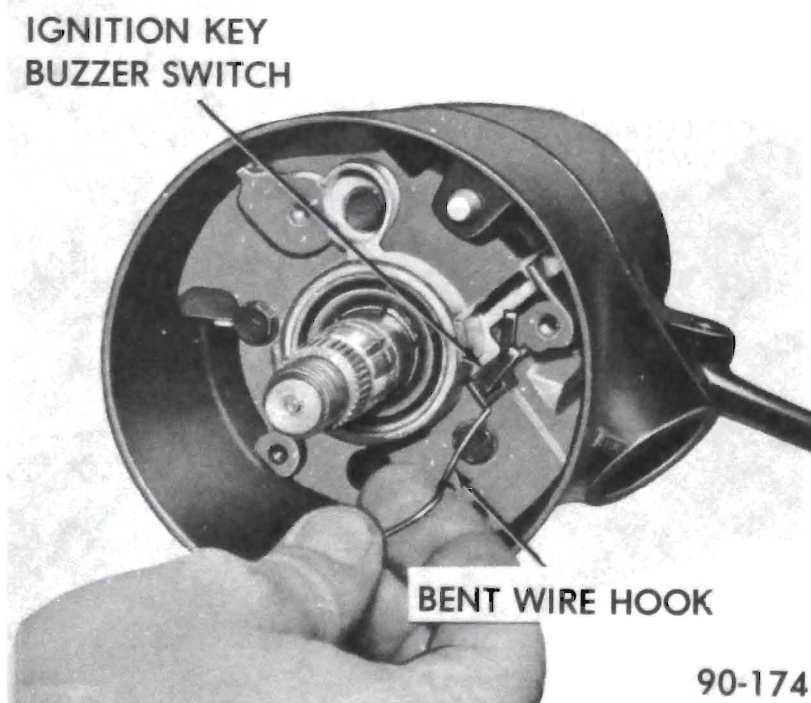

Figure 90-88 Removing Buzzer Switch
12. The buzzer switch can be pulled straight out of the housing. (This may be done without removing the lock cylinder. However, the lock cylinder must be in the "run" position.) See Figure 90-88. Do not pull on